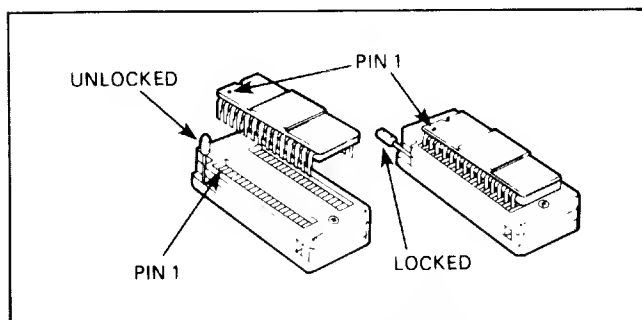

Figure 3-3. Device Installation
2. Lift the lever on the upper-left side of the socket below the lighted LED (see figure 3-3); the lever will stay in the upright position.
3. Gently set the device in the socket below the lighted LED. Make sure pin 1 of the device is aligned with pin 1 of the socket (upper-left corner); see figure 3-3.
2. Lift the lever on the left side of the socket; see figure 3-3. The lever will remain in the upright position.